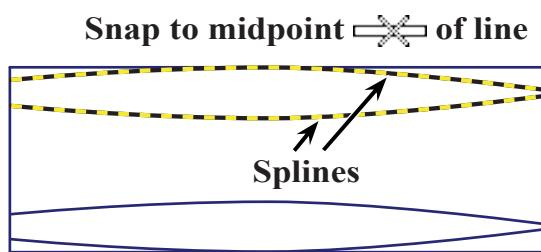

Fig. 7
Step 2. Click **both splines** and click End Selection  (ENTER) **Fig. 7**.